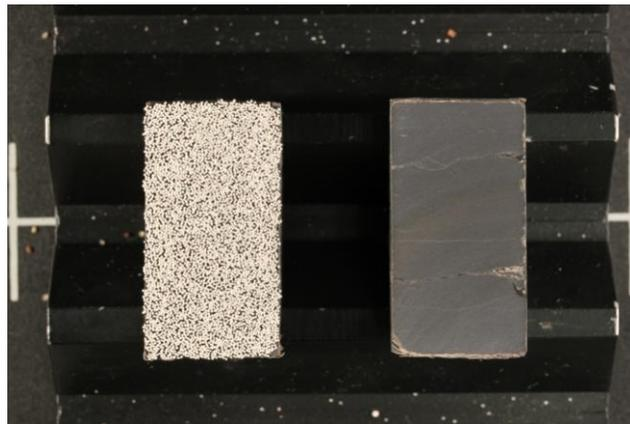
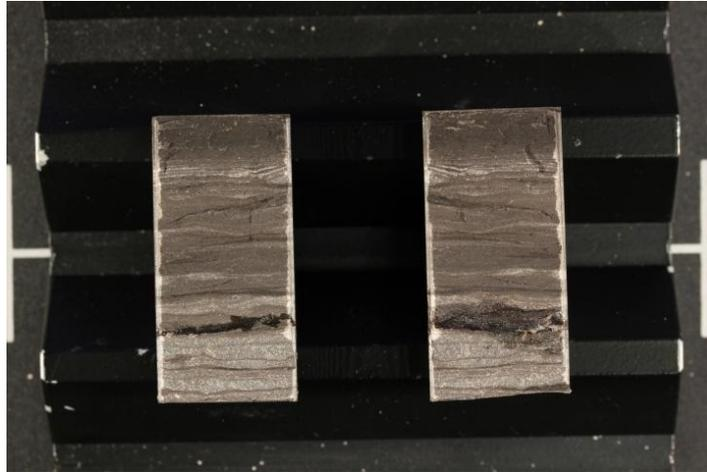

Figure 1.4 Pre-test photograph of prepped test sample
Figure 1.5 Pre-test photograph of Natural Asperity sample
6. **Pre-test Photograph and Final Preparation** – Carefully place the loaded samples on the copy stand in the designed tray side by side, with the left side on the left and the right on the right side. Set the camera to the proper exposure and aperture settings. Shoot the picture and record photo image number for the pre-test image (Figure 1.4). The same procedure will be used to take a photograph of the Natural Asperity samples (Figure 1.5). Carefully put both halves together and wrap sample with Teflon tape, keeping the fracture horizontal and the proppant from falling out. Next label the sample on the outside of the Teflon tape, with the job number and the sample number.